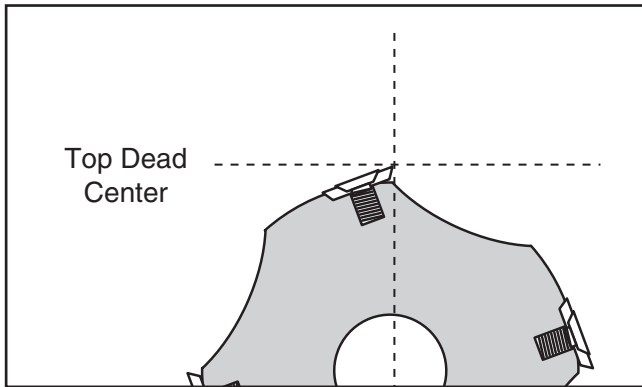

Figure 11. Cutterhead insert at top-dead-center.
26. Place straightedge on outfeed table so it extends over cutterhead, and rotate cutterhead pulley until one of the carbide inserts is at top-dead-center (TDC), as shown in **Figures 11 & 12**.